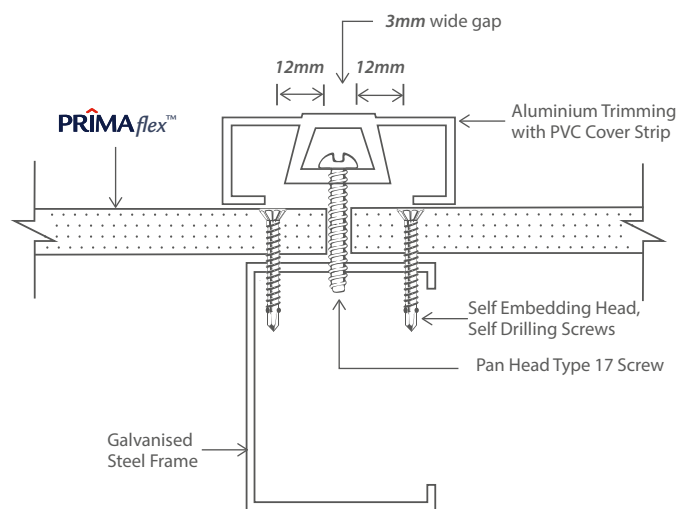

Figure 2.8: Aluminum Extrusion Joint
5. When **PRIMAflex™** is applied as internal wall lining, the joint may also be decorated with aluminium extruded profile as shown in **Figure 2.8**.